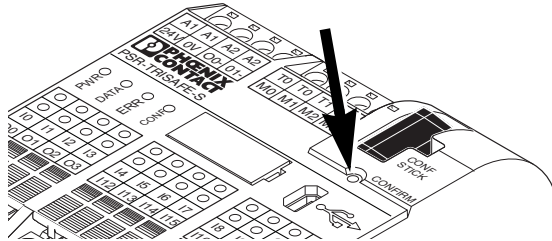

Figure 7-6 Confirming the configuration with the “Confirm” button
6. Confirm the new configuration by pressing the “Confirm” button using a pen (see Figure 7-6).